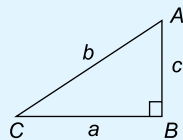

Figure 1.8
- In the right-angled triangle *ABC* shown in Figure 1.8, sine *A* is given by:
- In the right-angled triangle *ABC* shown in Figure 1.8, cosine *C* is given by:
- In the right-angled triangle *ABC* shown in Figure 1.8, tangent *A* is given by: